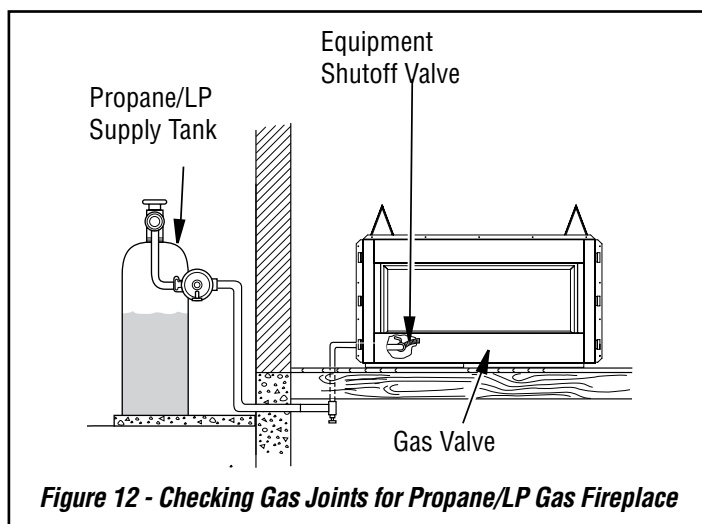

Figure 12 - Checking Gas Joints for Propane/LP Gas Fireplace
3. Check all joints from gas meter to equipment shutoff valve for natural gas or propane/LP supply to equipment shutoff valve for propane/LP (*see Figures 12 or 13*). Apply noncorrosive leak detection fluid to all joints. Bubbles forming show a leak.
4. Check all joints from equipment shutoff valve to gas control valve (*see Figures 12 or 13*). Apply noncorrosive leak detection fluid to all joints. Bubbles forming show a leak.